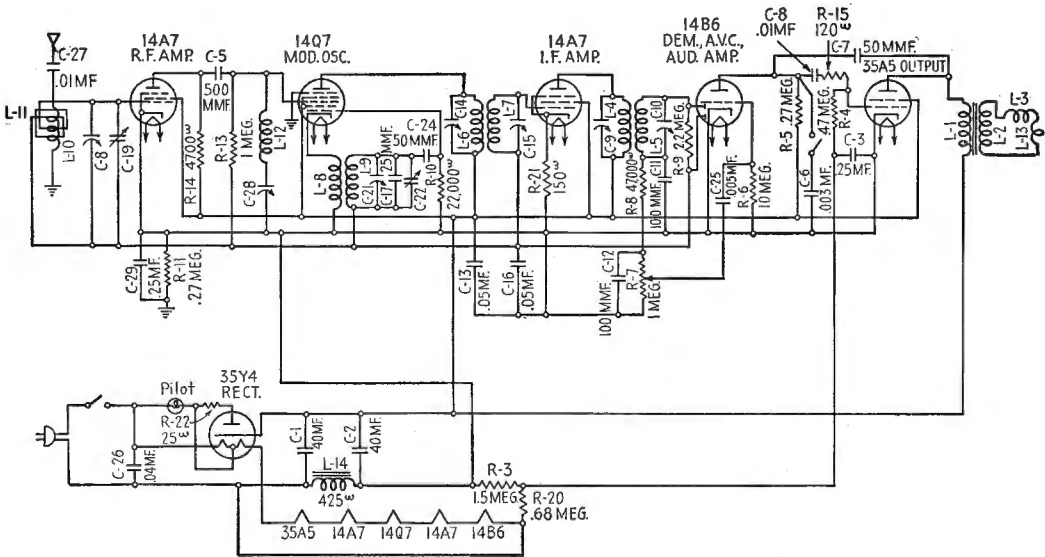

FIG. 16-10.—Schematic diagram of the Stromberg-Carlson No. 1000 receiver.
In loop receivers, the trap is usually placed in the converter signal grid circuit, where it serves a similar purpose by providing a low-impedance path to ground for signals at the intermediate frequency, which may be present in the converter signal grid circuit. Coil $L-12$ and condenser $C-28$ make up this type of wave trap in the receiver of Fig. 16-10.
RF Stage Followed by an Untuned Converter.—Many receivers employ an RF stage that is resistance-coupled to the converter signal grid. This arrangement gives the receiver some of the advantages of an RF stage while using only two tuned circuits: the RF grid and the oscillator. The Stromberg-Carlson No. 1000 receiver shown in Fig. 16-10 uses this type of circuit.
The coupling between the RF and the converter tubes consists of RF plate load *R-14*, coupling condenser *C-5*, and converter signal grid load *R-13*. The circuit composed of *L-12* and *C-28* in the converter signal grid is a wave trap tuned to the intermediate frequency of the receiver. Similar circuits in other receivers use different values for the components in the resistance-coupling circuit. The plate load varies from 5,000 to 10,000 ohms. The coupling condenser varies from 0.0001 to 0.0005 mfd. The grid-load resistor is often smaller than the one shown in the diagram, 25,000 to 100,000 ohms being more usual. Another circuit difference is that some receivers bring the grid-load resistor to ground or common negative rather than to the AVC bus, as shown in Fig. 16-10.
4. The receiver of Fig. 16-10 gives poor reception in the customer's home although it operates normally on the service bench. A long out door antenna was suggested and installed. The reception was greatly improved but the receiver is now troubled with code interference all over the tuning range. What is likely to be wrong and how should it be checked?